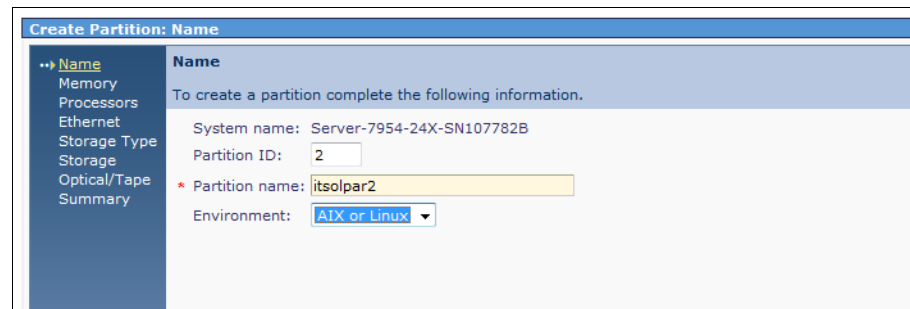

Figure 8-65 IBM Create Partition Name window
1. Click **Create Partition**. The Create Partition: Name window opens, as shown in Figure 8-65.